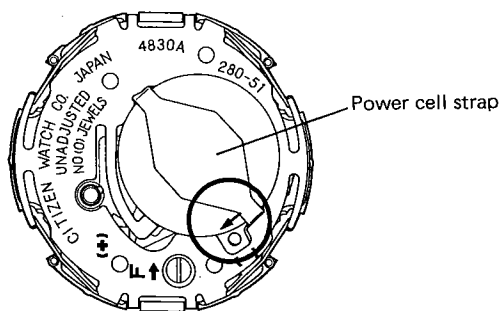

Fig. 2
- As illustrated in Fig. 2, the power cell strap is unset by sliding it toward an arrow mark.
3) Connection spring of supporter for plate complete (II)